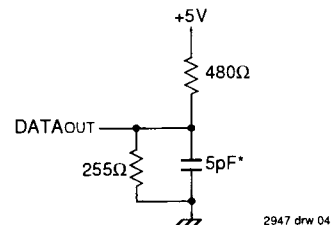

Figure 2. Output Load
3. This parameter is guaranteed with the AC load (Figure 2), but is not production tested.